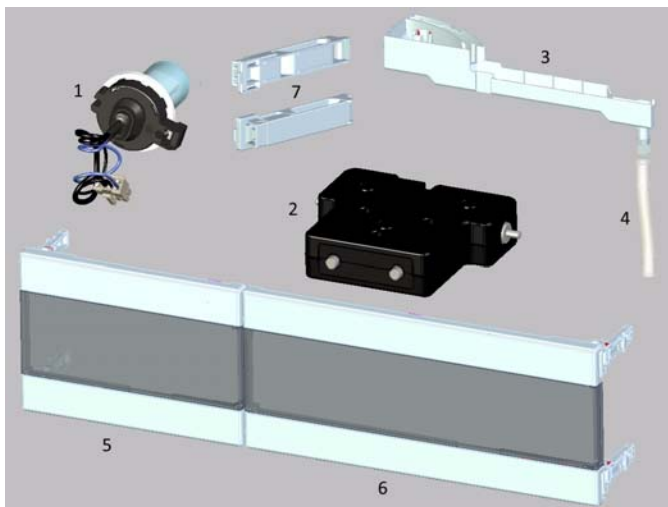

Figure 52 Overview of maintenance parts
5063-6527	Tubing assembly, i.d. 6 mm, o.d. 9 mm, 1.2 m (to waste) see item 4 in Figure 52 on page 180
5043-1013	Tubing Clip see item 7 in Figure 52 on page 180